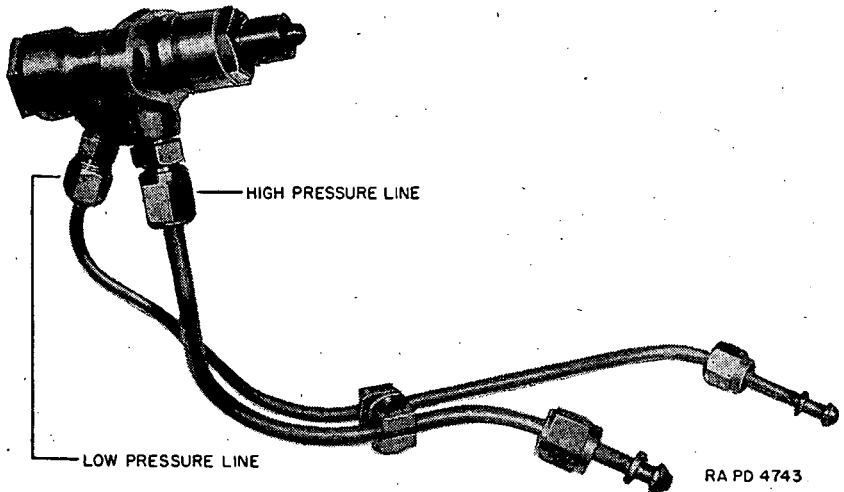

FIGURE 42.—Fuel injector valve, Guiberson engine.
67. Fuel pressure pump (fig 40).—Each cylinder has an independent high pressure pump connected to the fuel injector by means of thick wall high pressure tubing (fig. 42). The pumps are mounted on the rear half of the crankcase in back of their respective cylinders. In operation these pumps produce enough pressure to force fuel through the fuel injector valves, and also control the quantity of fuel going into the combustion chambers. Replacement of a fuel pressure pump will not be attempted by the using arm personnel.
68. Fuel injector (fig 42).—*a. Description.*—On each cylinder head a fuel injector atomizes the fuel sprayed into the combustion chamber.
- (2) To replace pump, proceed in reverse order.
71. Cartridge starter (fig. 42).—*a. Description.*—Cartridge engine starters derive their power for operation from the gas pressure developed when a cartridge is fired. A fresh cartridge is required for each start. The complete starter and breech assemblies consist of—